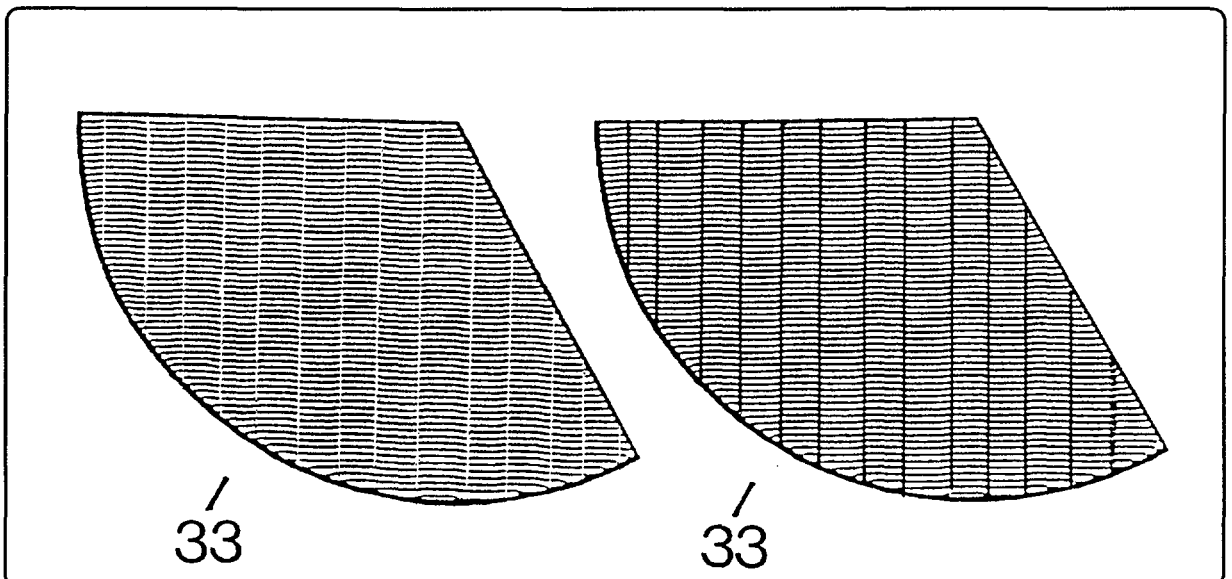

Figure 3-4. Vertical Stripes in the 33% Pie Slice
Check the adjustment by examining a self-test printout (see Figure 3-4 for an enlarged portion of the printout). Look at the 33% slice in the pie chart. If light vertical stripes appear (see left side), try setting RET to the next darker setting. If dark vertical stripes appear, try setting RET to the next lighter setting. If the output still has dark vertical stripes (see right side), adjust the print density dial to a slightly lighter setting (a higher number on the print density dial) and repeat the adjustment.
8. **Graph/Pie Chart:** The bar graph and pie chart test the printer's HP-GL/2 vector graphics capability. (The 33% portion of the pie chart also serves as a check on the Resolution Enhancement quality and proper adjustment--see Figure 3-4.)